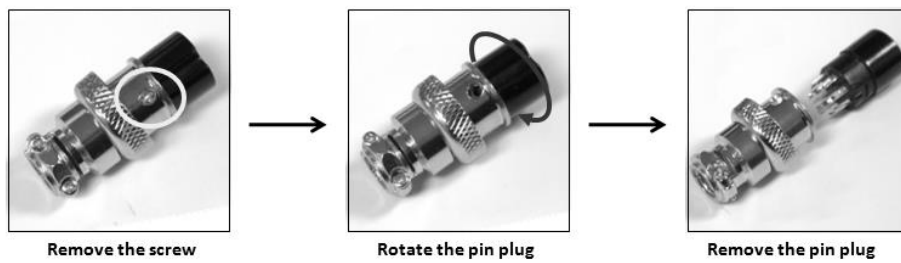

Figure 4 - Remote Control Connector
- (a) Remove the pin plug of the remote control connector plug by removing the screw as shown in Figure 4.